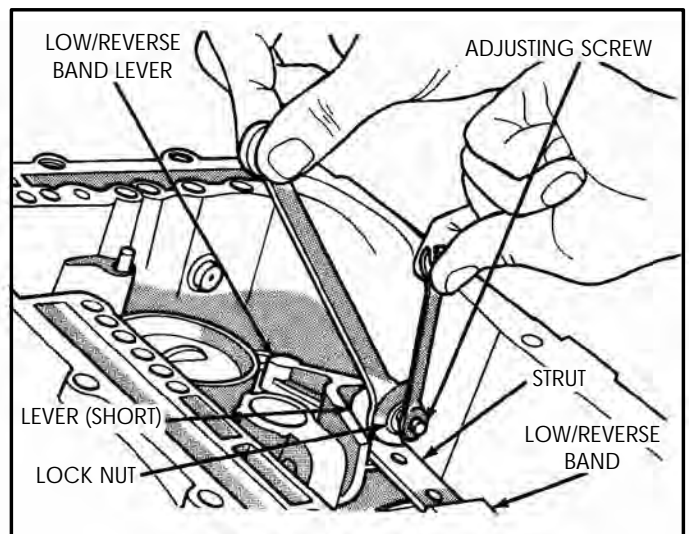

Figure 237
1. Adjust the reverse band assembly, as shown in Figure 237, to the proper setting.